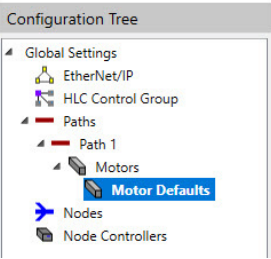

Figure 4-21: Configuration Tree Expanded with Motor Defaults Selected
4. Select **Motor Defaults**, see Figure 4-21.